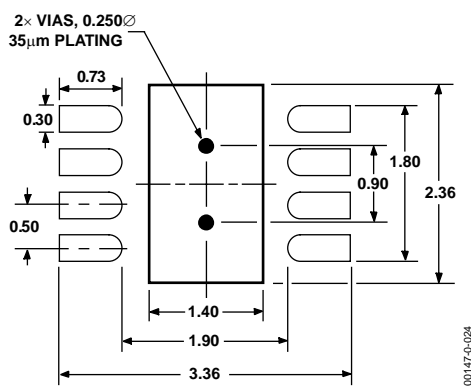

Figure 25. 3 mm \times 3 mm LFCSP Pad Pattern
1. The pad pattern is given in Figure 25. The pad dimension should be followed closely for reliable solder joints, while maintaining reasonable clearances to prevent solder bridging.
2. The thermal pad of the LFCSP package provides a low thermal impedance path (approximately 20°C/W) to the PCB. Therefore, the PCB must be properly designed to effectively conduct heat away from the package. This is achieved by adding thermal vias to the PCB, which provide a thermal path to the inner or bottom layers. See Figure 25 for the recommended via pattern. Note that the via diameter is small to prevent the solder from flowing through the via and leaving voids in the thermal pad solder joint.